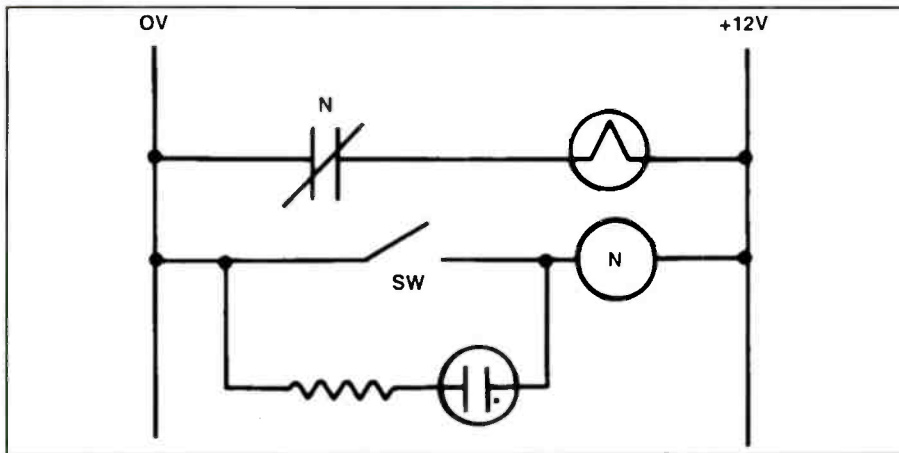

Figure 1. Will the neon lamp in this circuit glow when the switch is opened or closed?
- Regarding the circuit of Figure 1, the neon lamp will glow when the switch [SW] is